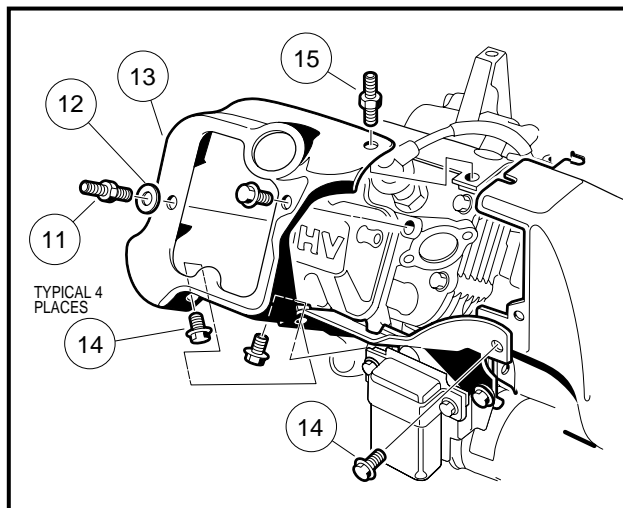

Figure 13-7 Head Shroud Removal
12. Remove the eight bolts (14) and the two-ended bolts (11 and 15) (**Figures 13-7 and 13-8, Page 13-10**).
13. Take off the head shroud (13), the upper shroud (23) and the bracket (22) (**Figures 13-7 and 13-8, Page 13-10**).